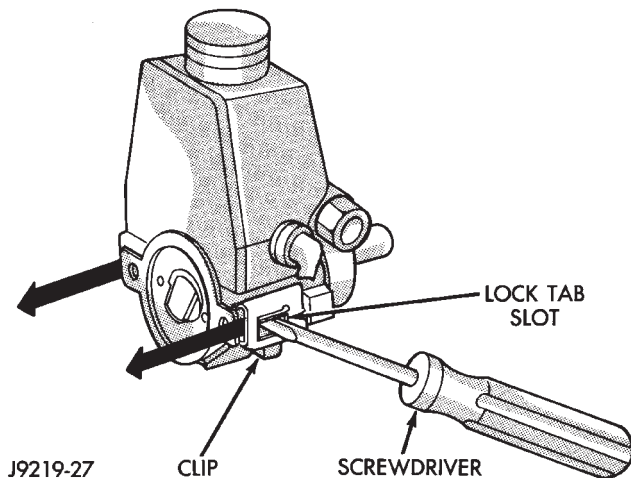

Fig. 7 Remove Reservoir Clips (Typical)
- (1) Remove power steering pump. Refer to Pump Replacement in this section.
- (2) Clean exterior of pump with solvent.
- (3) Clamp the pump body in a soft jaw vice.
- (4) Pry up tab and slide the retaining clip off (Fig. 7).